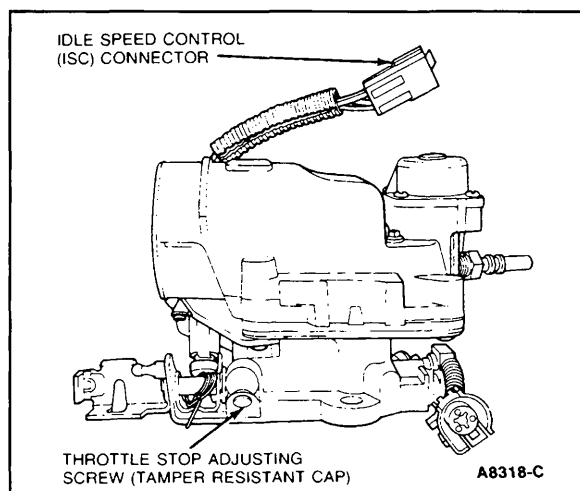

Figure 3 2.5L CFI HSC
6. Remove the plug that covers the throttle stop adjusting screw (Figure 3).